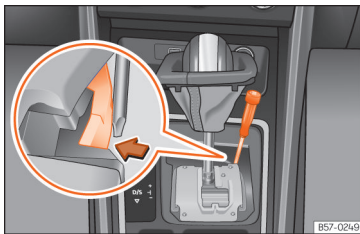

Fig. 90 Selector lever: manual release from position P.
- Using the flat part of a screwdriver, press the yellow tab sideways and keep it pressed down  **Fig. 90**.